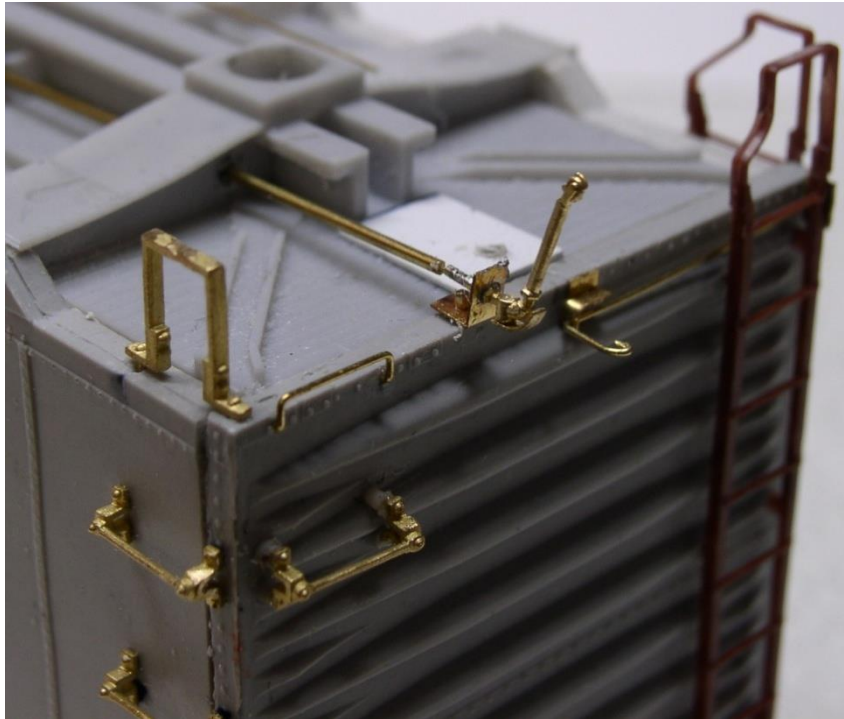

Figure U29
4. Test fit the Glad Hand/Glad Hand Bracket on the post. Trim if necessary. Install the Glad Hand/Glad Hand Bracket on the post. It should provide the appearance of an extension of the Brake Line. See Figure U29.